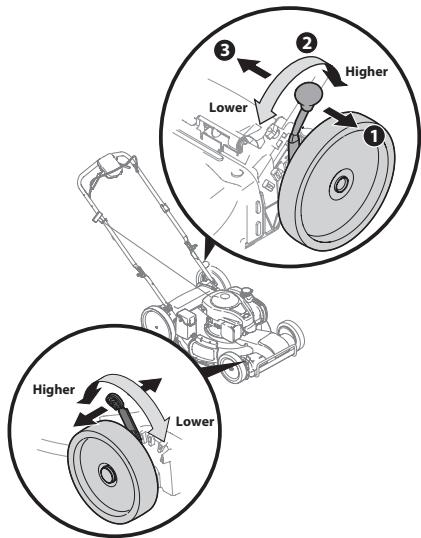

Figure 2-10
1. Pull the height adjustment lever towards wheel (unit will tend to fall when lever is moved outward). See Figure 2-10.